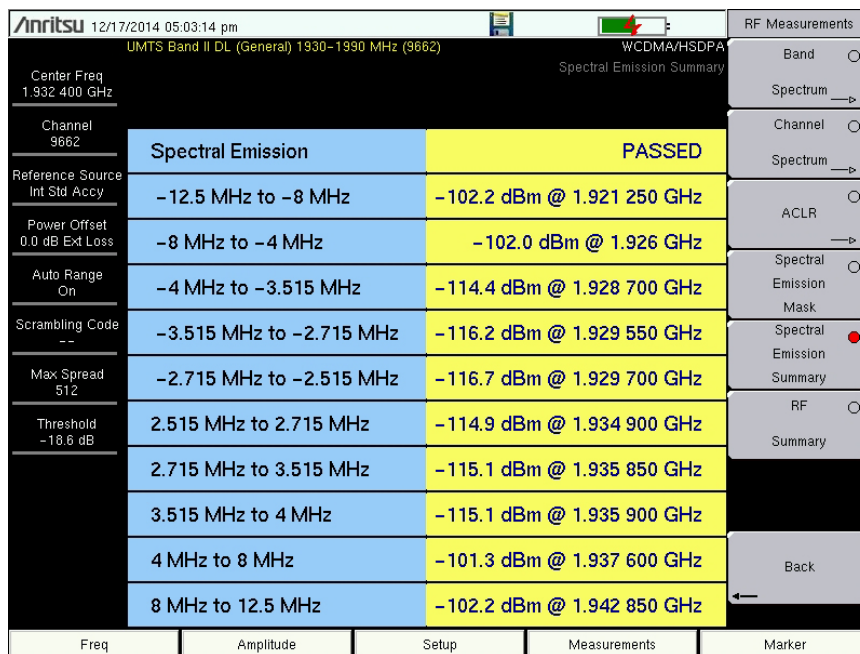

Figure 3-6. Spectral Emission Mask Summary
5. Press the Spectral Emission Summary submenu key to display the Spectral Emission Summary table (Figure 3-6).